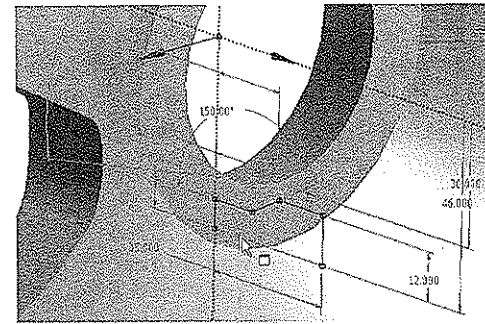

Figure 5-24 The line to be selected as axis for the revolve feature
- 6. Select the longest horizontal line of the sketch as the axis for the revolved feature, refer to Figure 5-24.